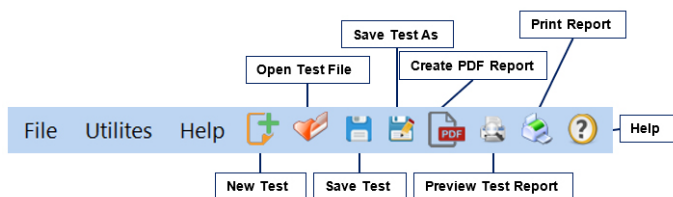

Figure 3: Toolbar
3. Eject the USB containing installation files and insert the USB security key. Open the Unconfined Compression Data Acquisition Software. Click **Help** along the toolbar (Figure 3) then select **Activation** from the drop-down menu. Enter the provided license number, USB ID, and activation code. The software will run normally for 30 days before this information is required to continue use. Activation information can be entered at any point within the first 30 days after installation.
The top toolbar (Figure 3) consists of icons used to start, open, save and create test reports. These commands are also listed under the **File** dropdown menu.